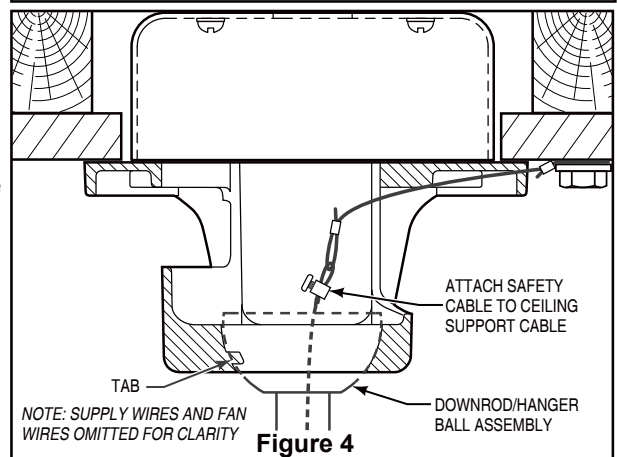

Figure 4
4. Install the clevis pin, hairpin clip and tighten set screws. The clevis pin and hair pin clip must be properly installed to prevent the set screws from working loose. (Figure 4)
4. Carefully lift the fan and seat the downrod/hanger ball assembly on the hanger bracket that was just attached to the ceiling joist. Be sure the groove in the ball is lined up with tab on the hanger bracket. (Figure 4)
5. Attach the safety cable to ceiling support cable. Slide cable clamp onto safety cable (from fan). Place the end of cable through the loop of ceiling support cable. Pull as much cable through loop as possible. Feed end of cable into clamp hole and firmly tighten screw (Figure 4). Cut off excess safety cable.
4. If airflow is desired in the opposite direction, turn the fan off and wait for the blades to stop turning. Then slide the reverse switch to the opposite position and turn fan on again. (Figure 4)